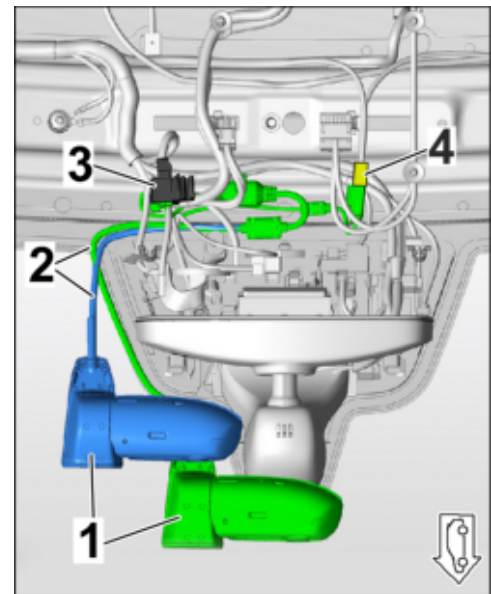

Figure 10 (9YA)
– Line routing - **Base (9YA)**:⇒ *Figure 10 (9YA)*
- Blue** – Camera position for Germany (D)